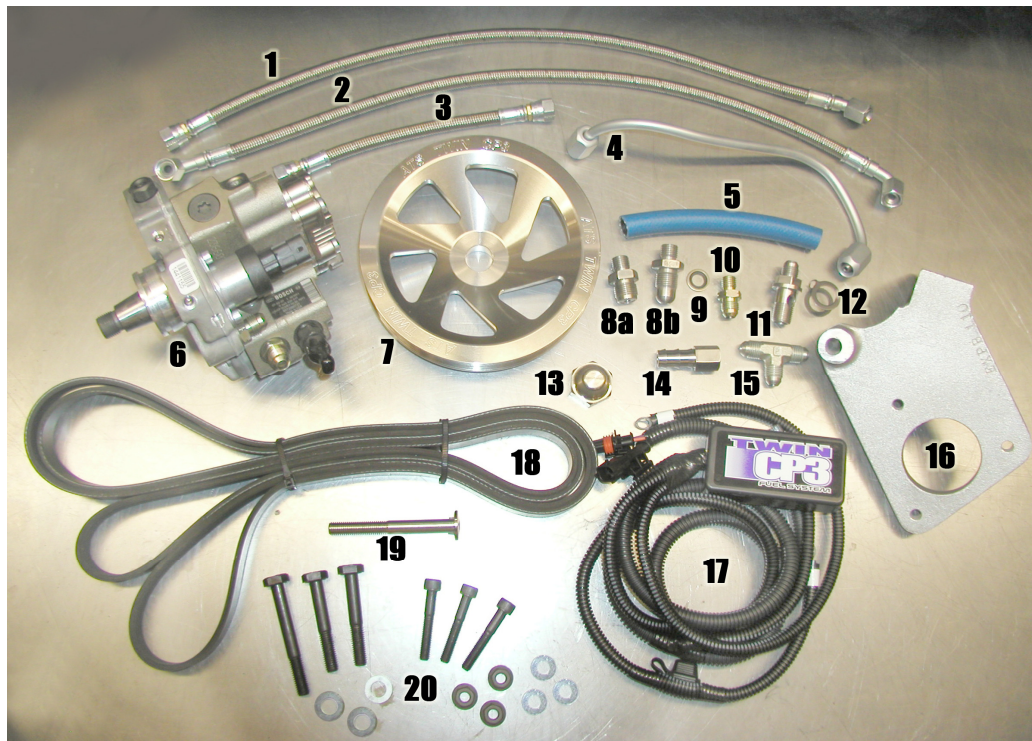
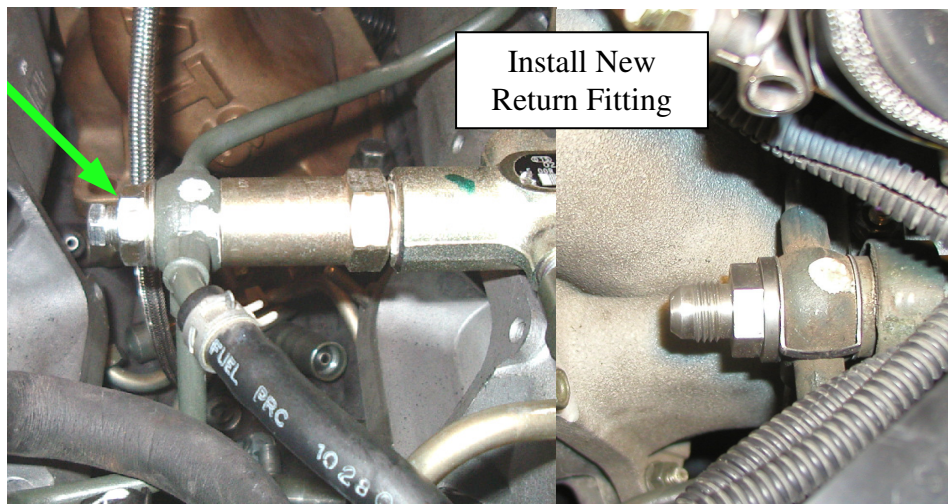

Figure 1: LB7 Twin CP3 Kit
Figure 15: Return Fitting Location
Thank you for purchasing the ATS Twin CP3 Kit. The picture below shows all the components included in the kit. Two rail fittings (8a. and 8b.) are shown in the picture. Only 8b. is included in this kit. Please check before beginning the installation to make sure all components are in the supplied LB7 Twin CP3 kit. Two ½" barbed to JIC-6 fittings (#14 in **Figure 1**) are provided in the kit for installation variations. The backside large idler pulley, alternator bracket and tensioner are not pictured.
15. Install the -6 supply fitting and seal (#9 and 10 in **Figure 1**) into the factory CP3 pump.
16. Route supplied $\frac{1}{2}$ " fuel hose from fuel filter housing to the supplied -6 tee using the provided $\frac{1}{2}$ " barbed to -6 fitting provided in the kit (#14 in **Figure 1**). Attach hose to fuel filter with existing fuel line clamp.
17. Remove fuel return banjo bolt from the top of the pressure relief valve (**Figure 15**) and install the return combination JIC-6 banjo bolt with the new seal provided in the kit (#11 and #12 in **Figure 1**).
20. Remove alternator bracket bolt shown in **figure 18** and install the 10mm x 1.5 x 80mm button head bolt (#19 in **Figure 1**) into alternator bracket. Do not over tighten.